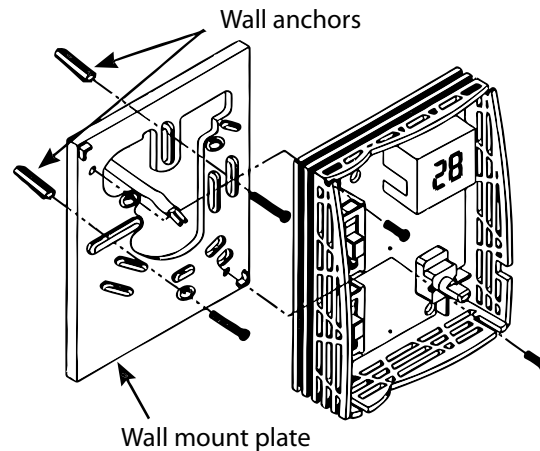

Figure 8
4. Drill holes in the wall through the 2 mounting holes in the back of the wall plate as shown in **Figure 8** and insert anchors into the holes.